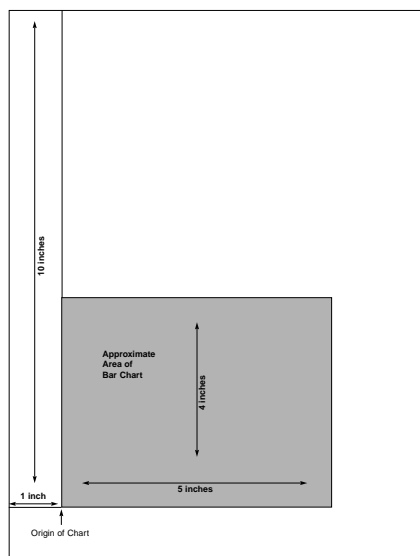

Figure 11
3. Determine where the chart should be placed (always in relation to the top left hand corner of the printable area). In the example, the bar chart is on the bottom half of a letter size page. The origin of the chart is one inch away from the left margin and 10 inches away from the top margin (Figure 11).